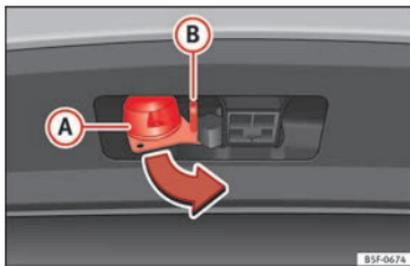

Fig. 244 Turn the 13-pin connector.
- Grip the 13-pin connector at area **(A)** and remove it in the direction of the arrow **»» Fig. 244**.
- Grip the 13-pin connector at area **(A)** and insert it in the opposite direction to the arrow **»» Fig. 244**.
The safety lug **(B)** **»» Fig. 244** is used to hook up the trailer's retainer cable.